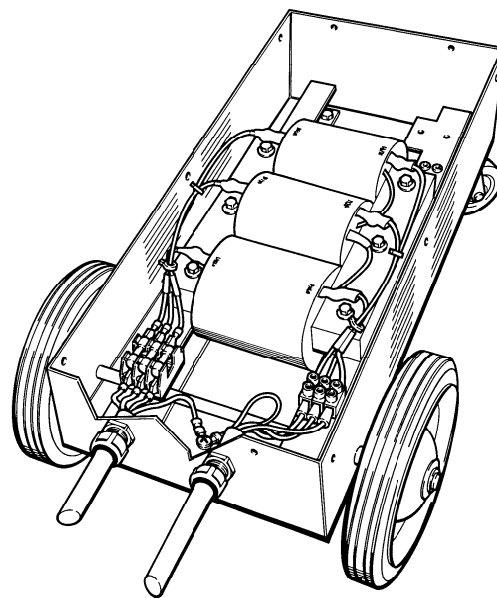

Figure 2-3 Wheels and Casters Installed on 600V Transformer Case
2. Turn transformer case back over on to wheels - Figure 2-3.